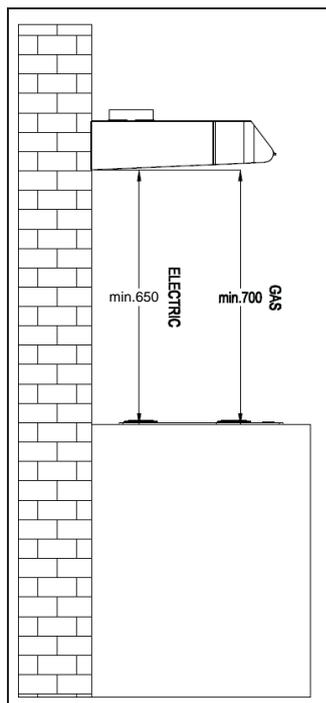

Fig.1
- The extractor hood can be installed over gas and electric cook top. Minimum installation height from the bench top to the bottom of the hood is 700mm (gas range) and 650mm (electric range) (Fig. 1).